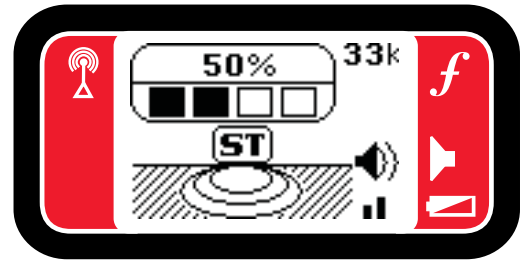

Figure 18 – Inductive Mode Screen
3. Press the Power Key  to turn ON the ST-33Q. Press the Inductive Mode Key  to toggle the ST-33Q between Direct Connect Mode and Inductive Mode (See Figure 18).